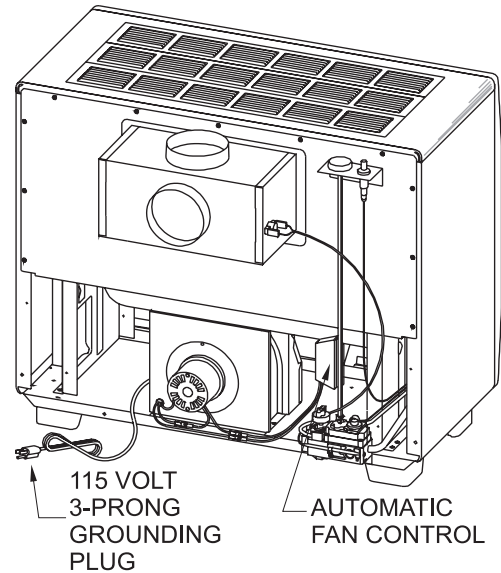

Figure 8
3. Align blower housing with blower cushion and use two, #10 x 1/2" (13mm) hex-head screws to attach blower housing to bottom assembly. **See Figure 8.**